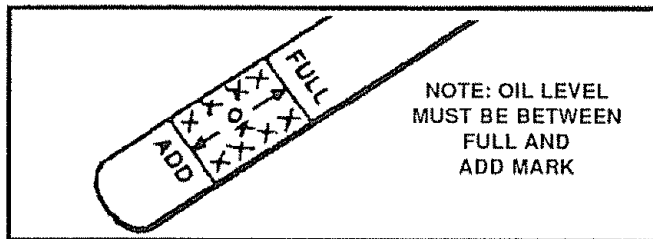

FIG.18
Check the crankcase oil level (See Fig 18) before starting the engine and after each five (5) hours of continuous use. Add S A E 5W-30 motor oil as needed. Tighten fill cap/dipstick securely each time you check the oil level.